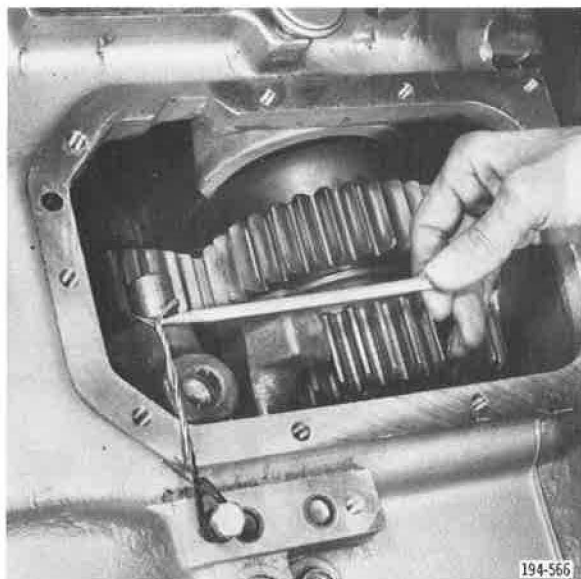

Figure 390. Wire Holding Shift Fork
5. Remove wire previously installed to hold Lo/Hi shift fork. See Figure 390.